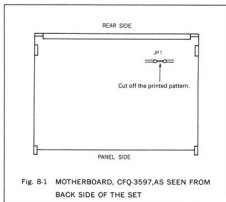

Fig. 8-1 MOTHERBOARD, CFQ-3597, AS SEEN FROM BACK SIDE OF THE SET
- 3) According to Fig. 8-1, cut off the printed pattern of JP1 on the motherboard.